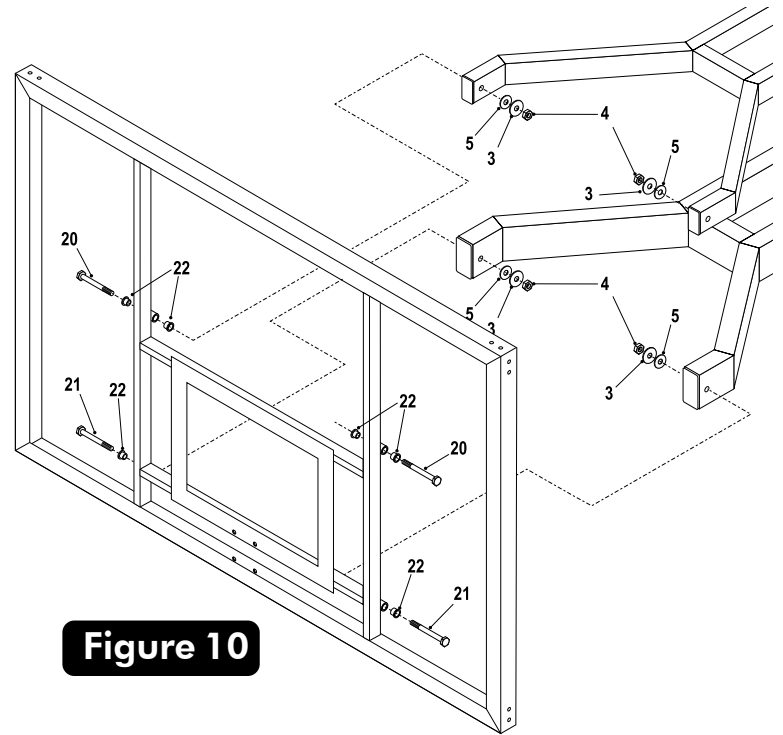

Figure 10
14. With at least three capable people, raise the backboard assembly up and have the fourth attach Lower Board Arms to lower mounting tubes on backboard using two bolts (#21), four Board Bushings (#22) (shipped already installed), two plastic washers (#5), two washers (#3) and two hex nuts (#4). See Figure 10.
15. Attach Upper Board Arms to upper mounting tubes on backboard using two bolts (#20), four Board Bushings (#22) (shipped already installed), two plastic washers (#5), two washers (#3) and two hex nuts (#4). See Figure 10.